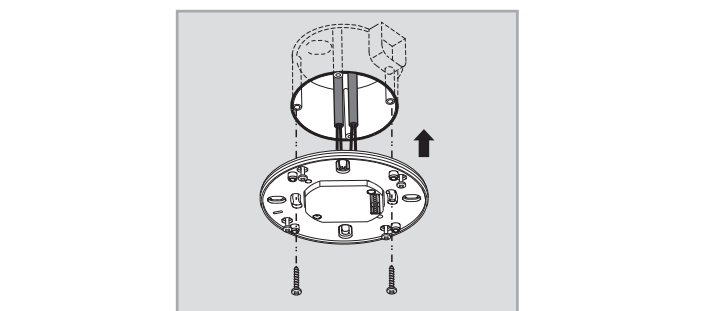

FIG.10
- 3.4.1.3 Fix the power box into European standard junction box with 2pcs screws (See FIG.10).